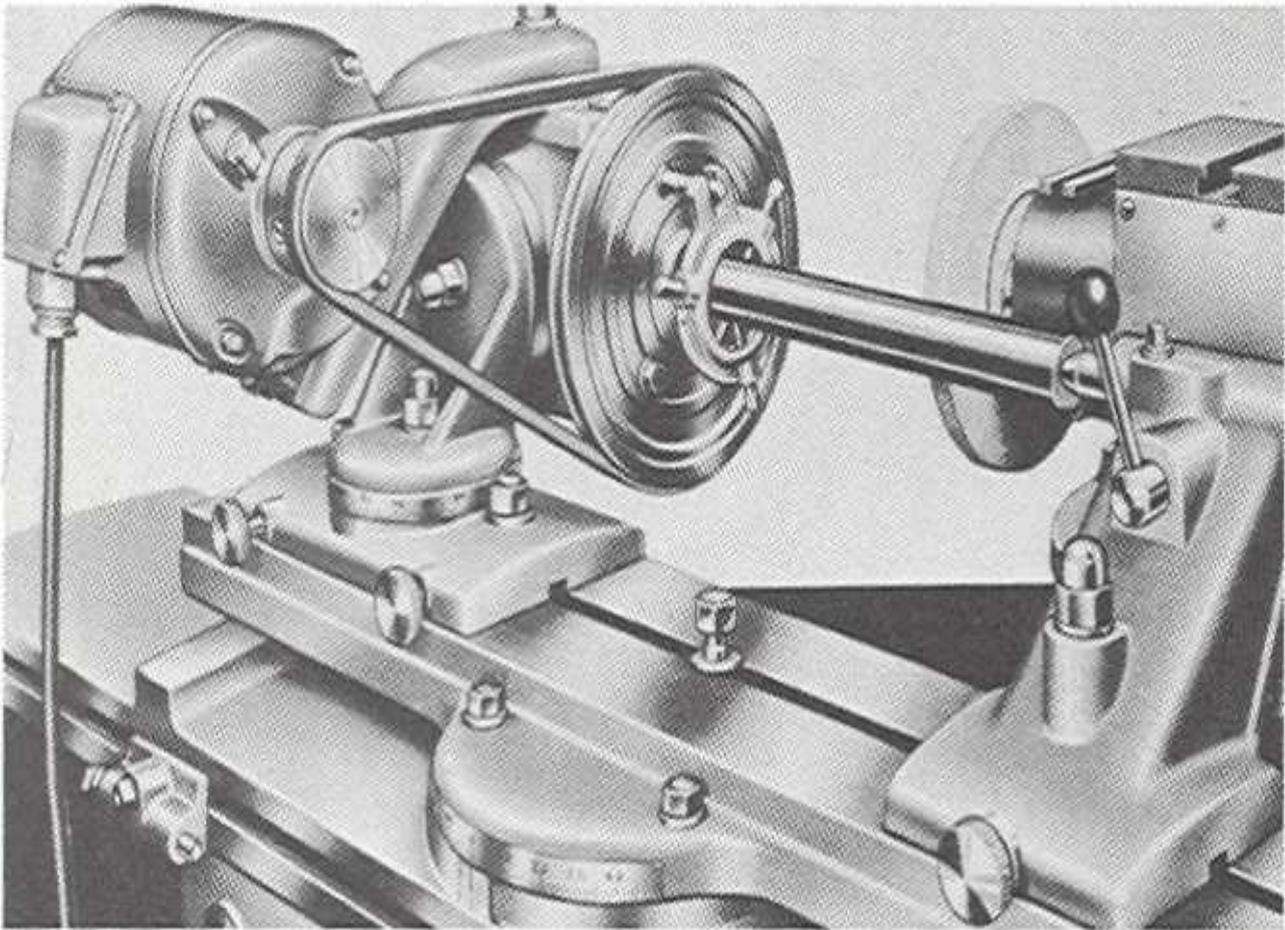

Figure32. Cylindrical grinding
- Mount the motorized work head on the left end of the table. **Fig 32**